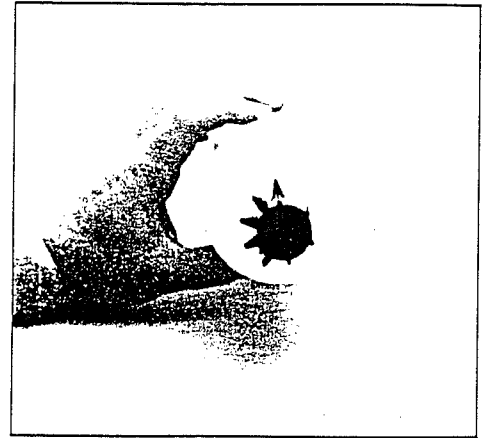

Figure 22
- 3) Remove the adjustment cap by depressing and turning counter-clockwise past the "1" setting. (See Figure 22).